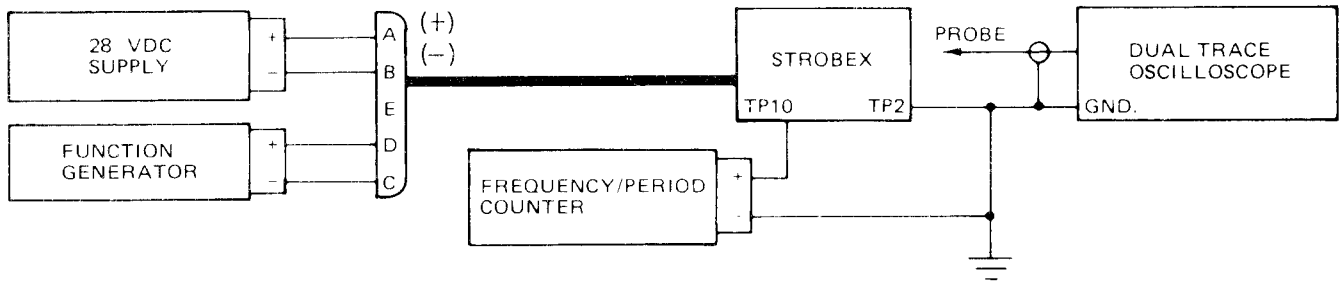
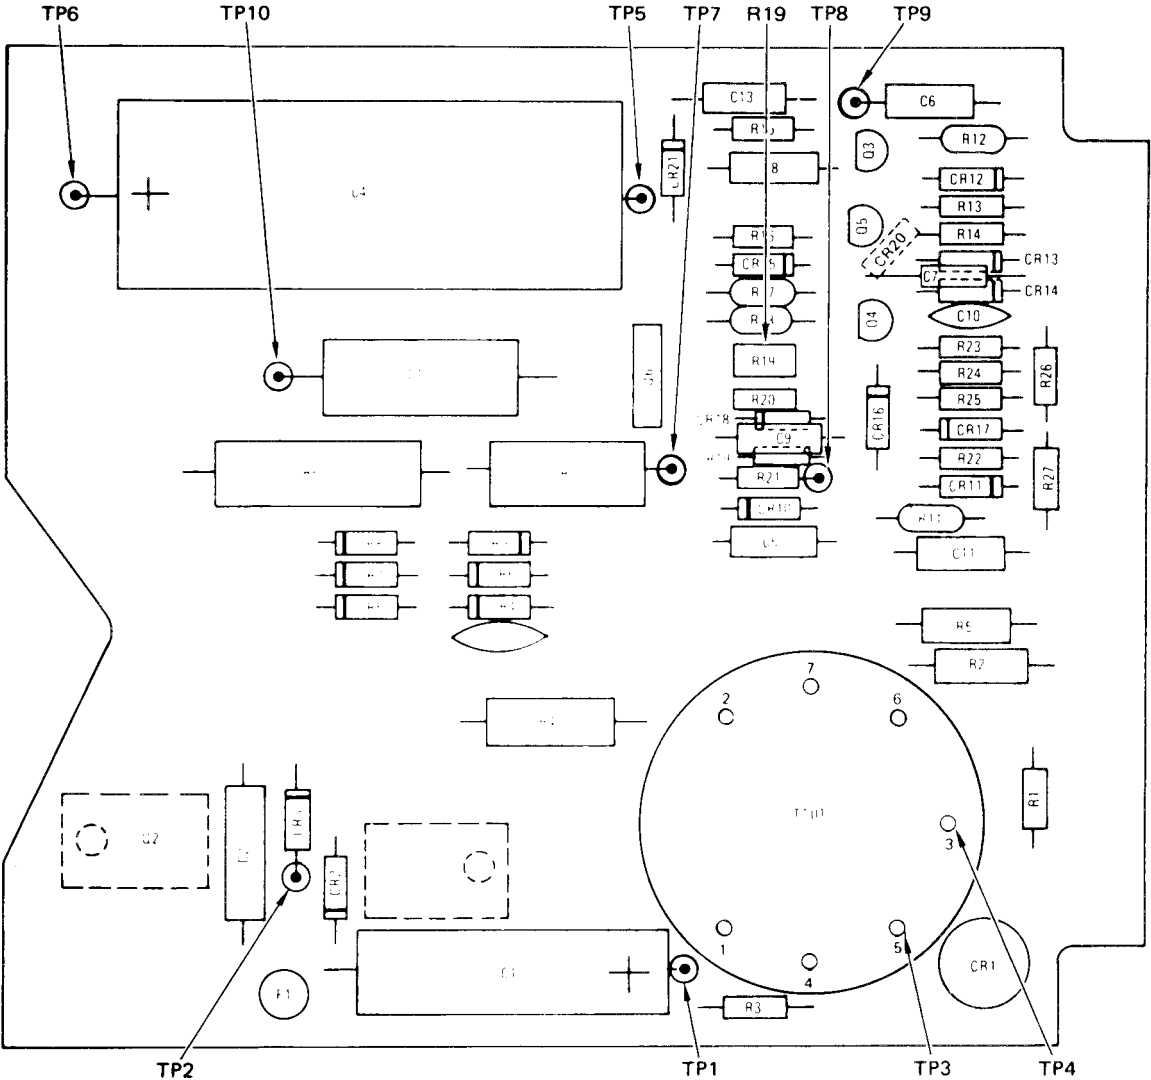

Figure 4-10. Strobex Test Setup
Figure 4-11. Strobex Test Points and Adjustments
b. Perform Strobex resistance checks in accordance with Table 4-7. Figure 4-11 shows the location of Strobex test points.
- (1) Connect +28 vdc power supply only to Strobex as shown in Figure 4-10.
- (2) Set MODE switch to A and RPM dial to 500.
- (3) Use VOM to measure voltage at test points in Table 4-8 (Trigger pulled).
(4) Connect test equipment as shown in Figure 4-10.
(5) Connect oscilloscope to function generator and set up function generator for a 40 Hz square wave output of 800 mV peak-to-peak.
(6) Squeeze and hold trigger on Strobex. Verify that Strobex flashes steadily and that flash rate is 40 Hz on frequency/period counter.
(7) Reduce function generator output until Strobex flashes erratically. Verify that function generator output is 600 mV peak-to-peak or less on oscilloscope. Release trigger.
- (1) Disconnect frequency/period counter and function generator,
- (2) Connect oscilloscope to TP10 (Fig. 4-11). Set up oscilloscope to sync on EX 60 Hz source and to measure a 400-volt signal with a 2 ms/division time base.
- (3) Set RPM dial MODE switch to positions indicated in Table 4-9. At each setting, adjust RPM dial to sync oscilloscope. Verify that RPM dial indicates value listed in Table 4-9 after syncing.
- (1) Connect Strobex and test equipment as shown in Figure 4-10.
- (2) Connect oscilloscope to function generator and set up oscilloscope to trigger from positive edge of function generator output.
- (3) Set function generator output to 10 Hz at 1 volt peak-to-peak.
- (4) Set MODE switch to B and RPM dial to 395.
- (5) Disconnect oscilloscope from function generator and connect to TP-9 (Fig. 4-11).
- (1) Connect Strobex and test equipment as shown in figure 4-10.
- (3) Set MODE switch to D and RPM dial to 100.
- (4) Disconnect oscilloscope from function generator and connect to TP10 (Fig. 4-11). Set oscilloscope to internal trigger, negative slope.